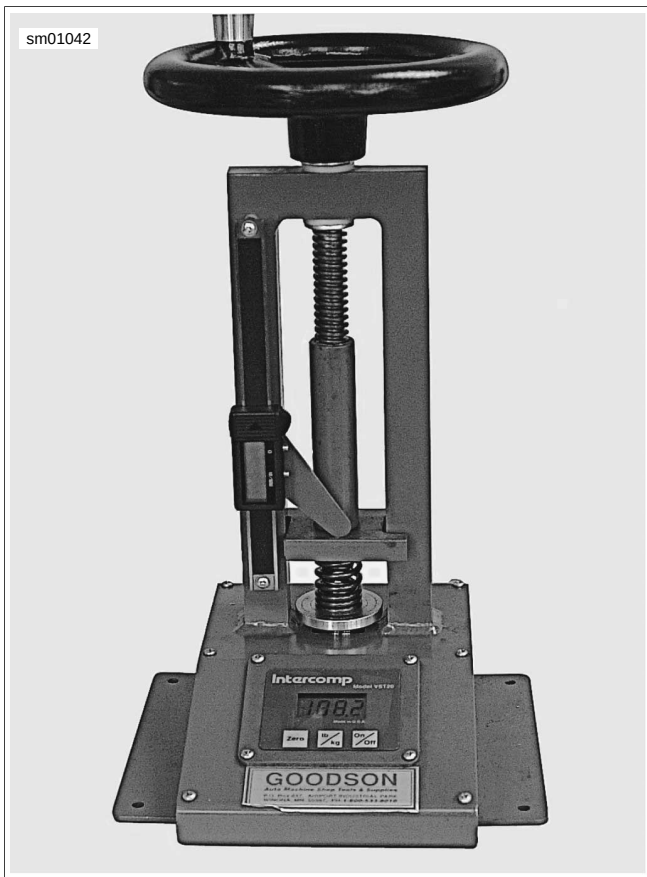

Figure 3-60. Testing Valve Spring
3. See Figure 3-60. Check valve spring free height and compression force at installed and compressed heights. Refer to Table 3-6. Replace if not within specification.